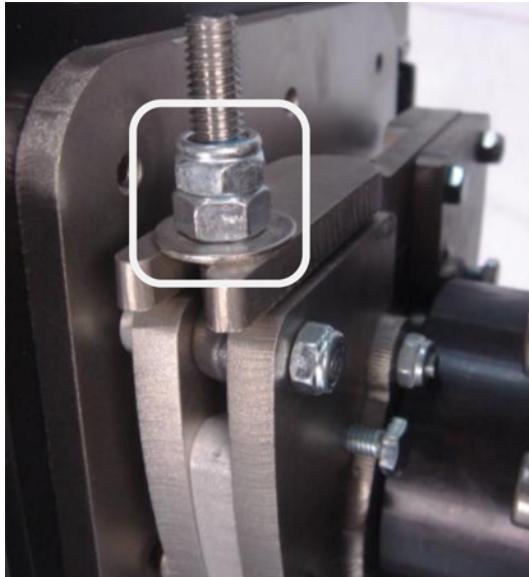

Figure 3-15 Undo 2 Latch Nuts
1. Lock the tilt axis, then loosen (2) M8 latch nuts (**Figure 3-15**).